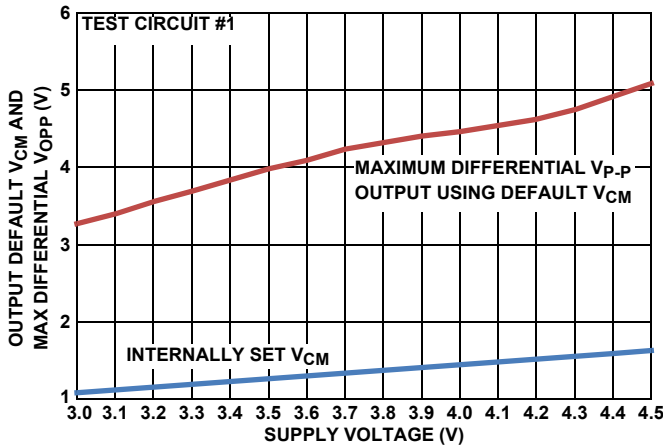
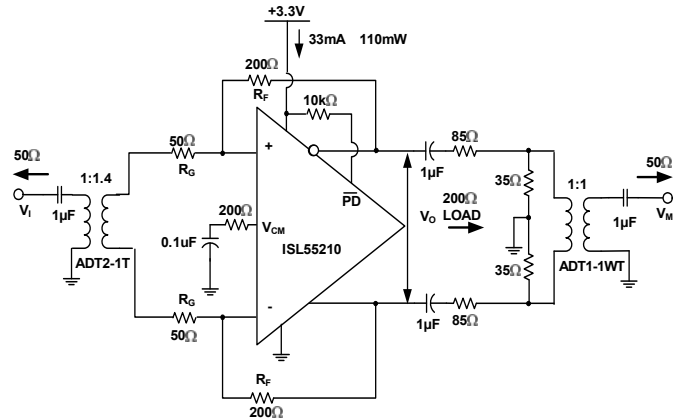

FIGURE 26. DEFAULT  $V_{CM}$  AND MAX  $V_{OPP}$  vs SUPPLY VOLTAGE
FIGURE 28. TEST CIRCUIT #1
The circuit of Figure 28 forms a starting point for many of the characterization curves for the ISL55210. Since most lab sources and measurement devices are single-ended, this circuit converts to differential at the input through a wideband transformer and would also be a typical application circuit coming from a single ended source. Assuming the source is a  $50\Omega$  impedance, the  $R_G$  resistors are set to provide both the input termination and the gain. Since the inverting summing nodes act as virtual ground points for AC signal analysis, the total termination impedance across the input transformer secondary will be  $2 * R_G$ . Setting this equal to  $n^2 * R_S$  will give a matched input impedance inside the bandwidth of the transformer (where "n" is the turns ratio). The amplifier gain is then set by adjusting the feedback resistors
Working with a transformer coupled input as shown in Figure 28, or with two DC blocking caps from a differential source, means the output common mode voltage set by either the default internal  $V_{CM}$  setting, or a voltage applied to the  $V_{CM}$  control pin, will also appear as the input common mode voltage. This provides a very easy way to control the ISL55210 I/O common mode operating voltages for an AC coupled signal path. The internal common mode loop holds the output pins to  $V_{CM}$  and, since there is no DC path for an  $I_{CM}$  current back towards the input in Figure 28, that  $V_{CM}$  setting will also appear as the input common mode voltage. It is useful, for this reason, to leave any input transformer secondary centertap unconnected. The internally set  $V_{CM}$  voltage is referenced from the negative supply pin. With a single 3.3V supply, it is very close to 1.2V but will change with total supply voltage across the device as shown in Figure 26.
Most of the characterization curves start with Figure 28 then get different gains by changing the feedback resistor,  $R_F$ , use different input transformers where then the  $R_G$  is also adjusted to hold an input match, or vary the loading. For load tests below the 200 $\Omega$  shown in Figure 28, a simple added shunt resistor is placed across the output pins. For loads >200 $\Omega$ , the series and shunt load R's are adjusted to show that total load (including the 50 $\Omega$  measurement load reflected through the 1:1 output measurement port transformer) and provide an apparent 50 $\Omega$  differential source to that transformer. This output side transformer is for measurement purposes only and is not necessary for final applications circuits. There are output interface designs that do benefit from a transformer as part of the signal path, but the one shown at the right of Figure 28 is used only for characterization to get a doubly terminated 50 $\Omega$  measurement path going differential to single ended.
The characterization circuit of Figure 28 shows one possible input stage interface that offers several advantages. The ISL55210 can also support a DC coupled differential to differential or single ended input to differential requirement if needed. Where AC coupling is adequate, the circuit of Figure 28 simplifies the input common mode voltage control. If the source coming into this stage is single ended, the input transformer provides a zero power conversion to differential. The two gain resistors ( $R_G$  in Figure 28) provide both the input termination impedance and the gain element for the amplifier. For minimum noise, only  $R_G$  should be used and set to achieve the desired input impedance. Since the ISL55210 is a VFA device, these resistor values can be scaled up and down a bit more freely than a current feedback based FDA.
3.6VP-P output capability. The VP-P reported in Figure 26 is an asymmetrically clipped maximum swing. Going 10% above this 3.7V target to 4.1V will be within the recommended operating range and give some tolerancing headroom that would also suggest the VCM voltage be moved up to approximately 1.5V. This coincides with the default output VCM from Figure 26. Operating at +4.1V single supply in a Figure 28 type configuration will give the maximum linear available output swing of 3.6VP-P.
The differential inputs of the ISL55210 also have operating range limits relative to the supply voltages. Operating in an AC coupled circuit like Figure 28 will produce an input common mode voltage equal to the outputs. The inputs can operate with full linearity with this VCM voltage down to 1.1V above the GND connection (or -VS supply). On the default 1.2V output VCM on +3.3V supplies this gives a 100mV guardband on the input VCM voltages. Overriding the default VCM by applying a control voltage to the VCM pin should be done with care in going towards the negative supply due to this limit. On the + side, the maximum VCM above the -VS supply is 2V so there is more room to move the output VCM up than down from the default value.
Test circuit #1 (Figure 28) is implemented on an Evaluation Module Board available from Intersil. This board includes a number of optional features that are not populated as the board is delivered. The full EVM board circuit is shown in Figure 38 where unloaded (optional) elements are shown in green.